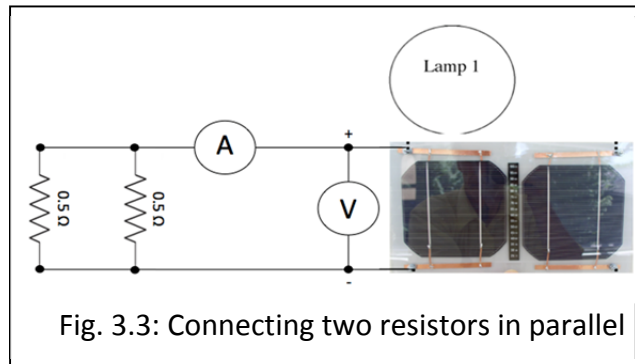

Fig. 3.3: Connecting two resistors in parallel
3. Now use jumper wires and connect the second 0.5Ω in parallel with the first resistor (see Fig 3.3). This will decrease the resistance by a factor of 2 because the current now has two paths of equal resistance to travel. Measure the Voltage, and Current, and determine the Power. How do they compare to the measurement with just one resistor?